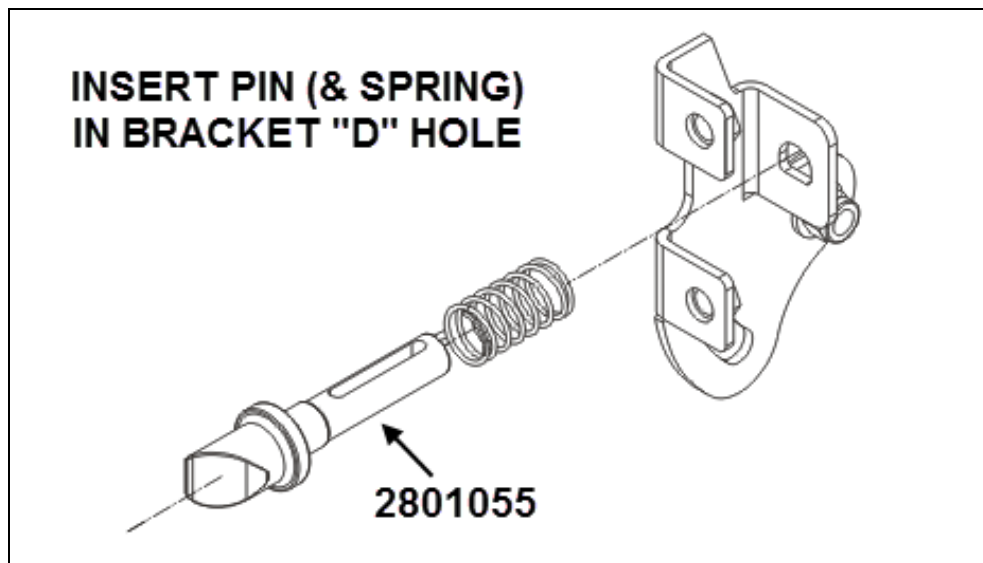

FIG.7 NEW LATCH PIN INSTALLATION
6. Remove and discard old latch pin and Install spring over *new latch pin 2801055*. Insert slotted tip of the latch pin in the "D" hole of the bracket (Fig.7).